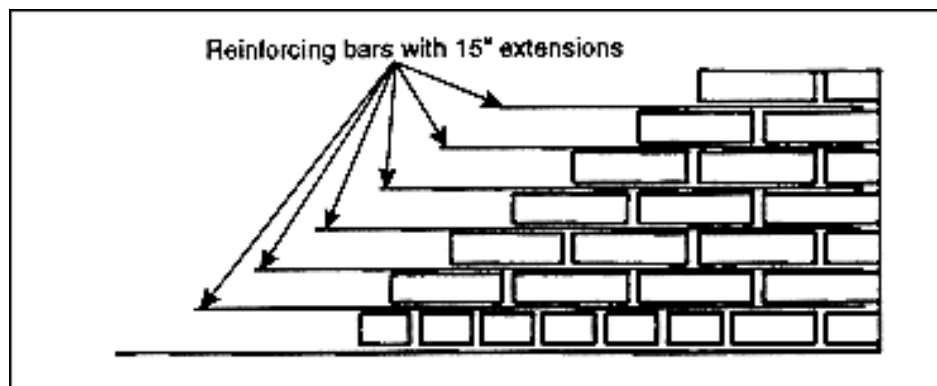

Figure 9-49. Corner lead for reinforced brick masonry wall
- Constructing corner leads. Place the reinforcing bars in corner leads as shown in Figure 9-49 below. Use the same size bars as in the rest of the wall, and let them extend 15 inches. The horizontal bars in the remaining wall should overlap the corner bars by the same 15 inches. As for beams, you must lay all brick in one course between the corner leads before laying any other brick, because you must embed the entire bar in mortar at one time.